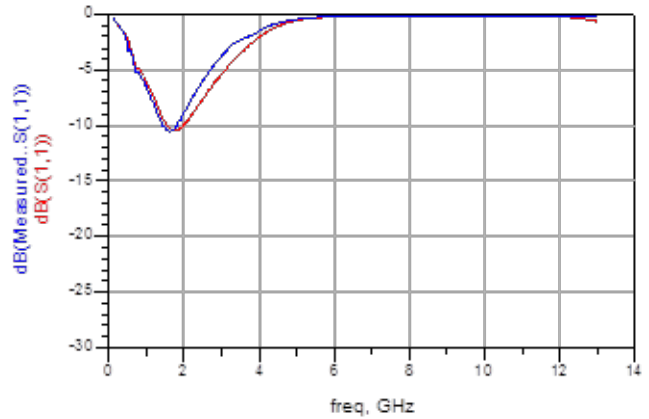

Figure 3. Measured Data (Blue) vs. Modeled Data (Red) for Input Return Loss
To provide an example on the accuracy of the BlackBox model, we will highlight the small signal comparison from our latest SKY67151-396LF in Figures 3–6. Similarly the noise figure (NF), large signal, and DC performance from the SKY67151-396LF have been compared to the BlackBox model which is tabulated in Table I. From one LNA design to another, the models are matched close to the measured data with ADS design setups and EM setups.